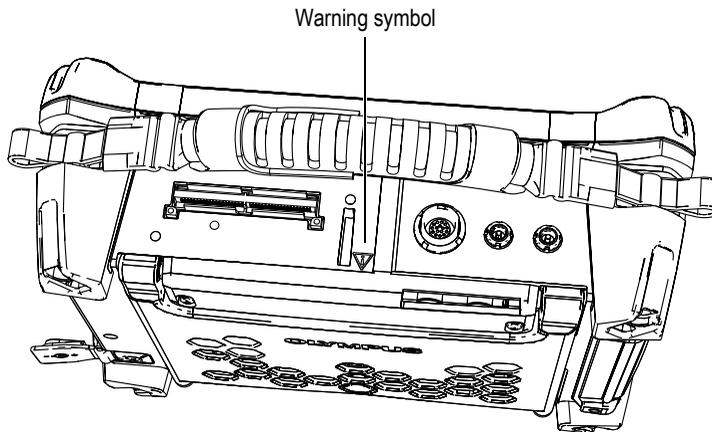

Figure i-3 Warning symbol on top of the OmniScan SX
- To reduce the risk of electric shock, avoid touching the inner conductor of the probe connectors. Up to 340 V can be present on the inner conductor of the ultrasonic testing (UT) connectors, and up to 115 V can be present on the phased array (PA) connector. The warning symbol near the PA and UT connectors signals this electric shock risk (see Figure i-3 on page 5).